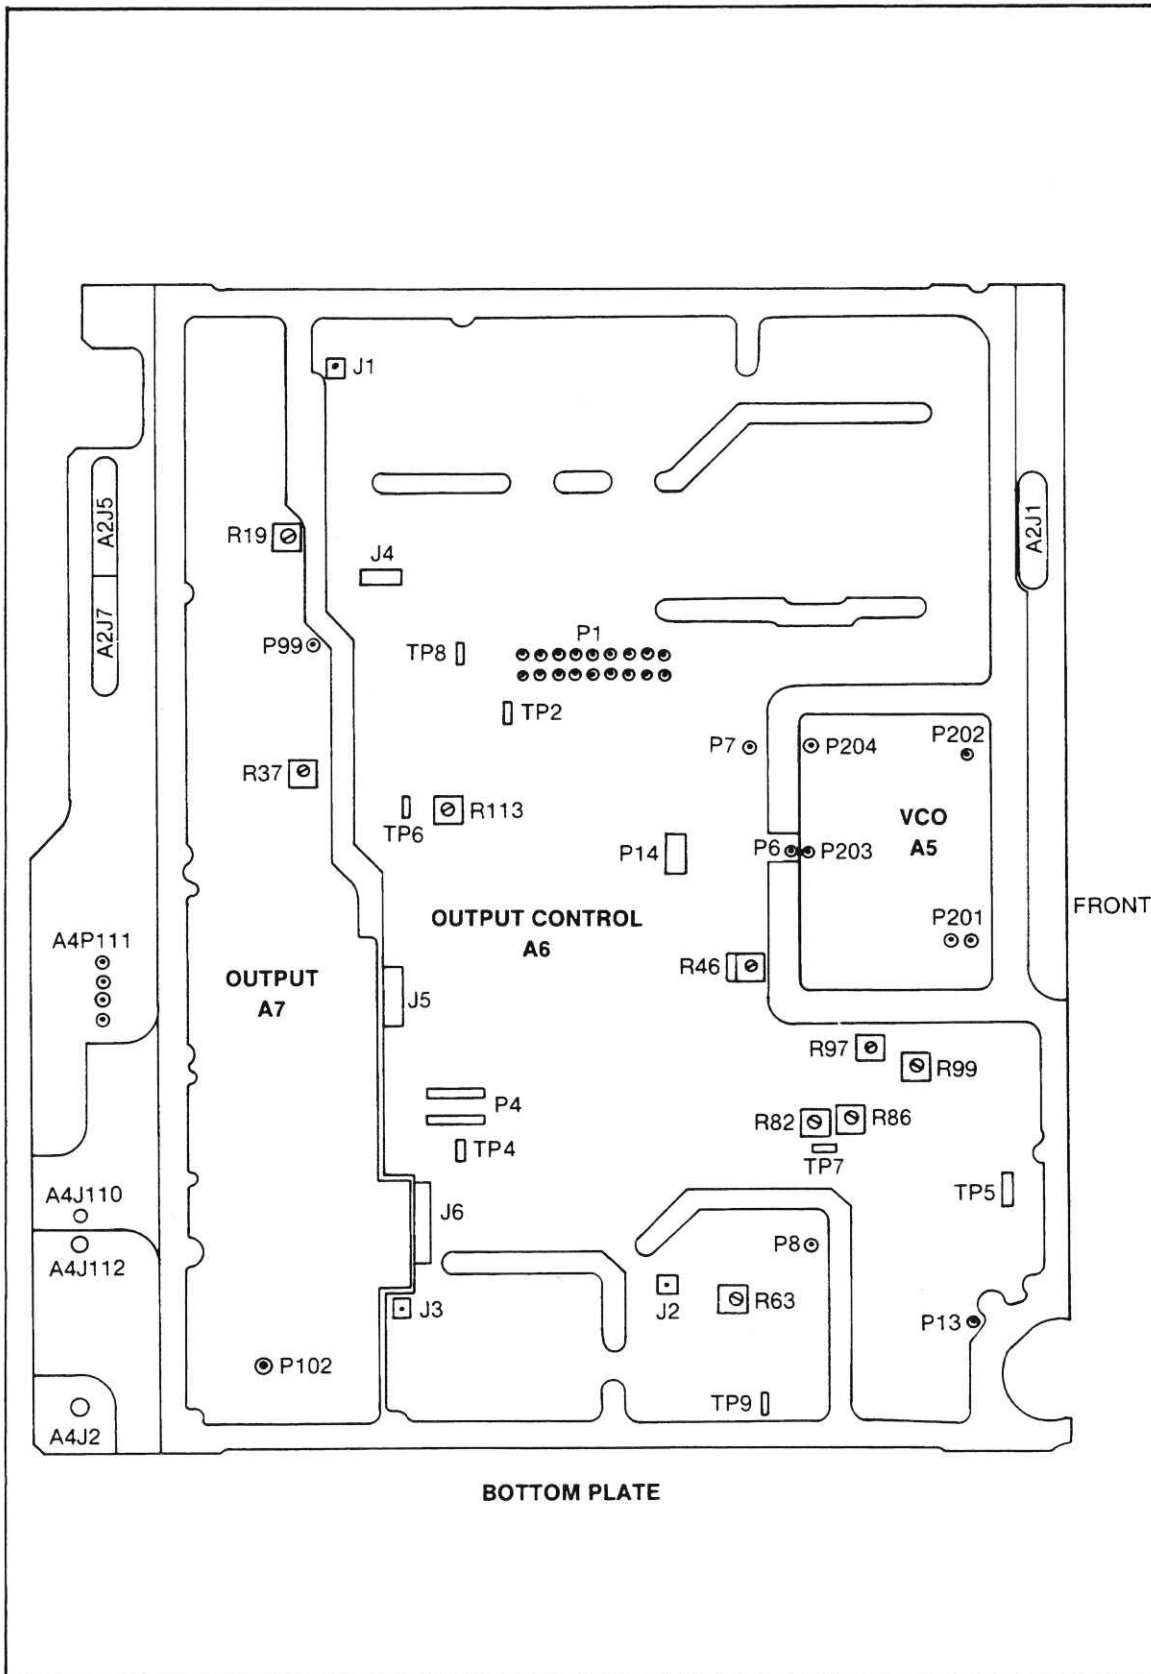

Figure 4C-2. Module Plate, Bottom View
1. Remove the Generator top cover and the 10-MHz adjustment access screw from the the module plate. (See Figure 4C-1 for 10-MHz adjustment location.)
The following adjustments, as well as TP7 and TP1, are accessible by removing the nine number-10 access screws in the module cover. Refer to Figure 4C-2 to identify the access screw corresponding to a particular adjustment.